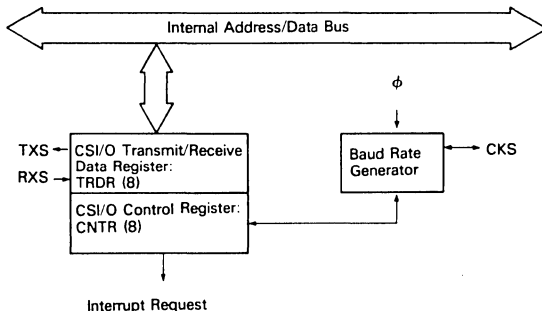

Figure 28. CSI/O Block Diagram
**CSI/O Block Diagram.** The CSI/O block diagram is shown in Fig. 28. The CSI/O consists of two registers - the Transmit/Receive Data Register (TRDR) and Control Register (CNTR).